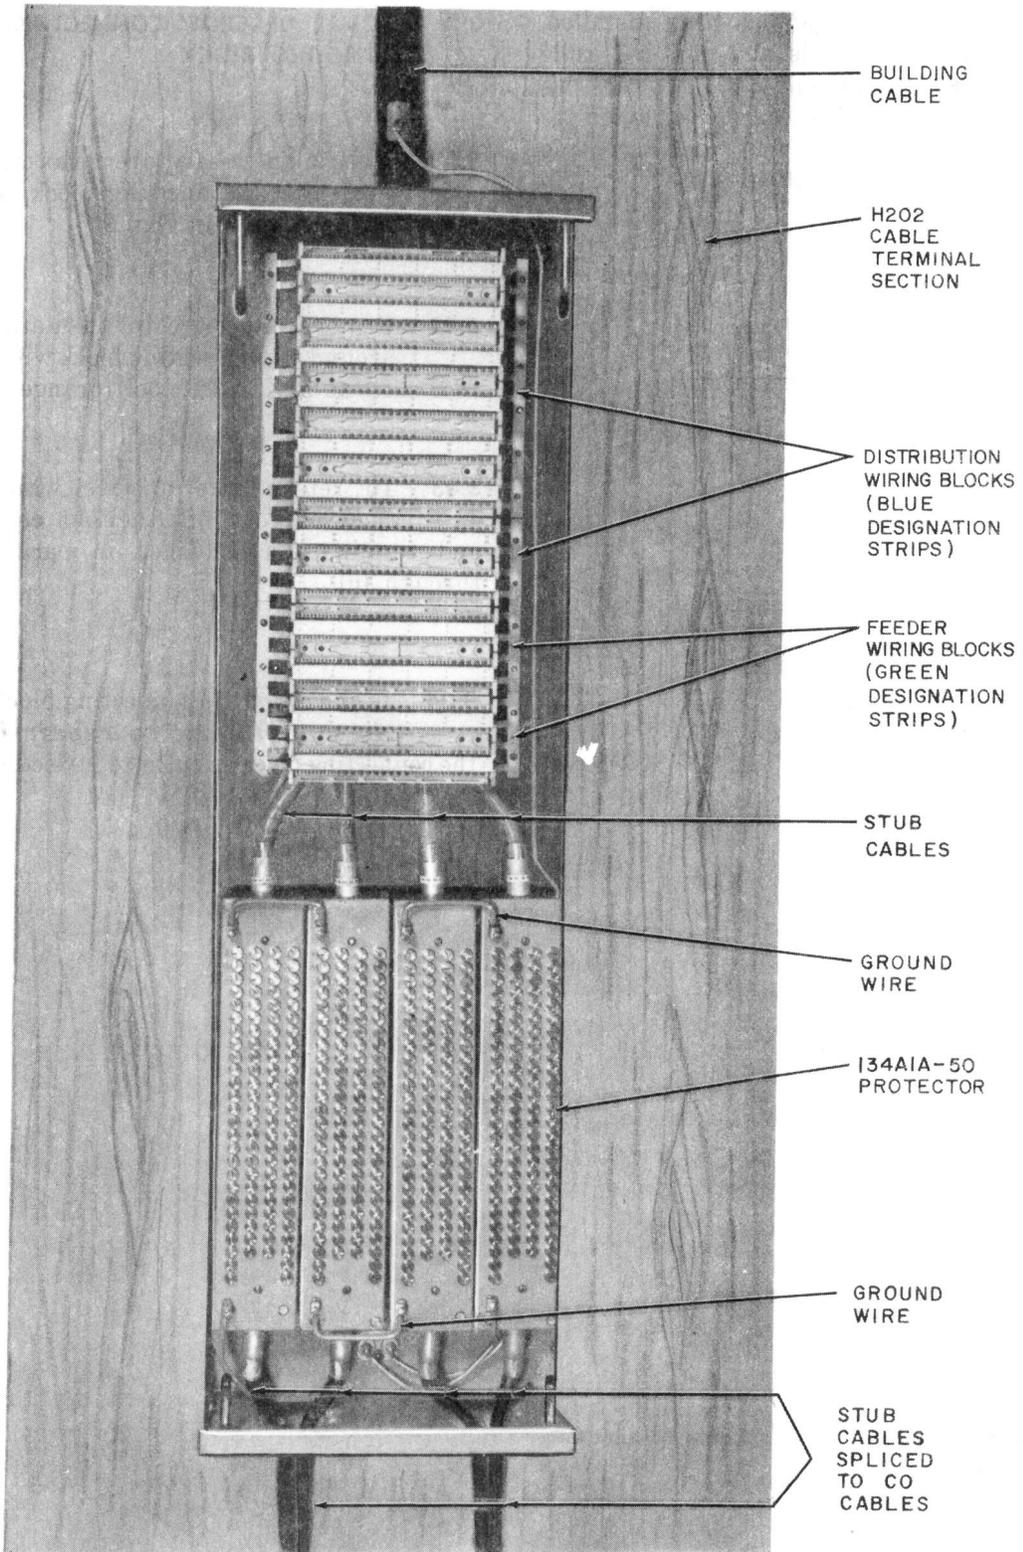

Fig. 7—200-Pair Exposed Entrance Cable—400-Pair Building Cable
2.03 A protected main terminal in a cable terminal section is illustrated in Fig. 7. A 134-type (GREEN field) protector is placed between the feeder wiring block and the CO feeder cable. This allows the cross connections to be run in the same